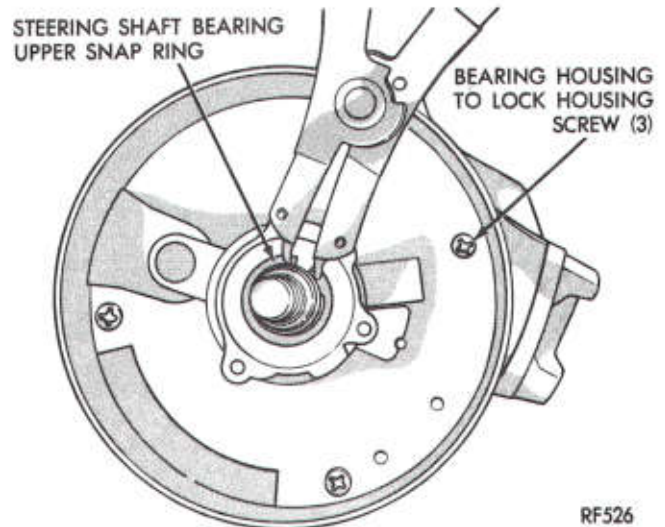

Fig. 8—Bearing Upper Snap Ring
(1) Remove snap ring from upper end of steering shaft (Fig. 8).
(2) Remove three screws which hold bearing housing to lock housing (Fig. 8).
(4) Remove the three retaining screws and the ignition switch assembly (Fig. 8).